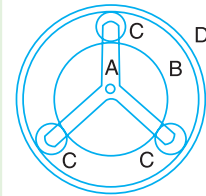

Fig. 13.13
**Example 13.9.** In an epicyclic gear of the 'sun and planet' type shown in Fig. 13.13, the pitch circle diameter of the internally toothed ring is to be 224 mm and the module 4 mm. When the ring  $D$  is stationary, the spider  $A$ , which carries three planet wheels  $C$  of equal size, is to make one revolution in the same sense as the sunwheel  $B$  for every five revolutions of the driving spindle carrying the sunwheel  $B$ . Determine suitable numbers of teeth for all the wheels.
Let  $d_B$ ,  $d_C$  and  $d_D$  be the pitch circle diameters of sun wheel  $B$ , planet wheels  $C$  and internally toothed ring  $D$  respectively. Assuming the pitch of all the gears to be same, therefore from the geometry of Fig. 13.13,